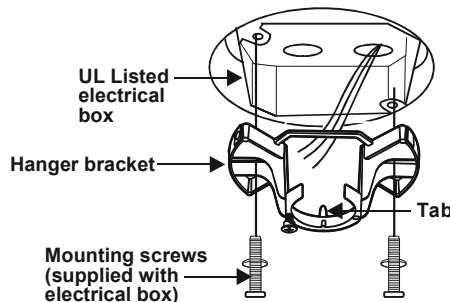

Figure 6
3. Secure the hanger bracket to the ceiling outlet box using screws and washers included with your outlet box. (Fig. 6)